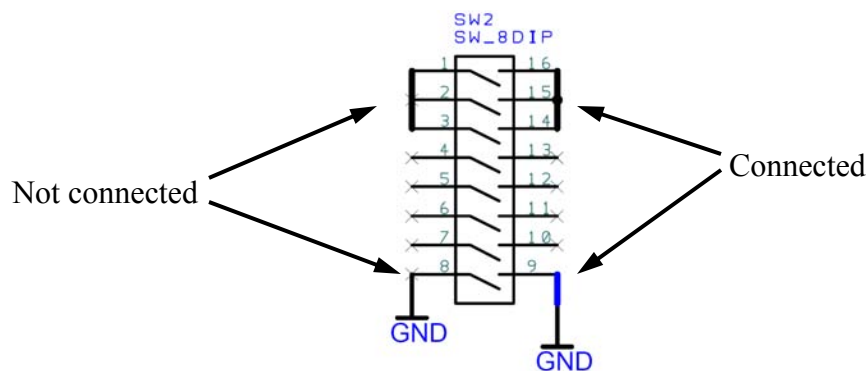

Figure 3: Common hookup errors in PCB Artist
- Look for potential bad connections on the schematic. See examples in Figure 3. You can use the "Unconnected Pins Report" to aid your search.